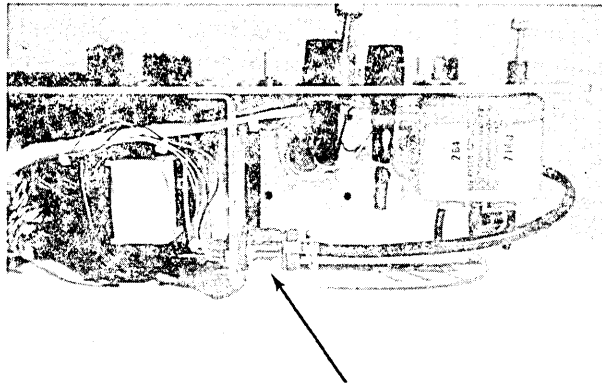

Figure 6-1. Plug P2 on Baffle Plate
1. Remove the round connector plug {see Figure 6-1} from the baffle plate.
1. Unsolder the wires from the round connector jack on the baffle plate (see Figure 6-1).